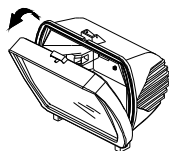

FIGURE 11
- 2) Pull down the front surround which is mounted on hinges and will swing open (FIGURE 11).